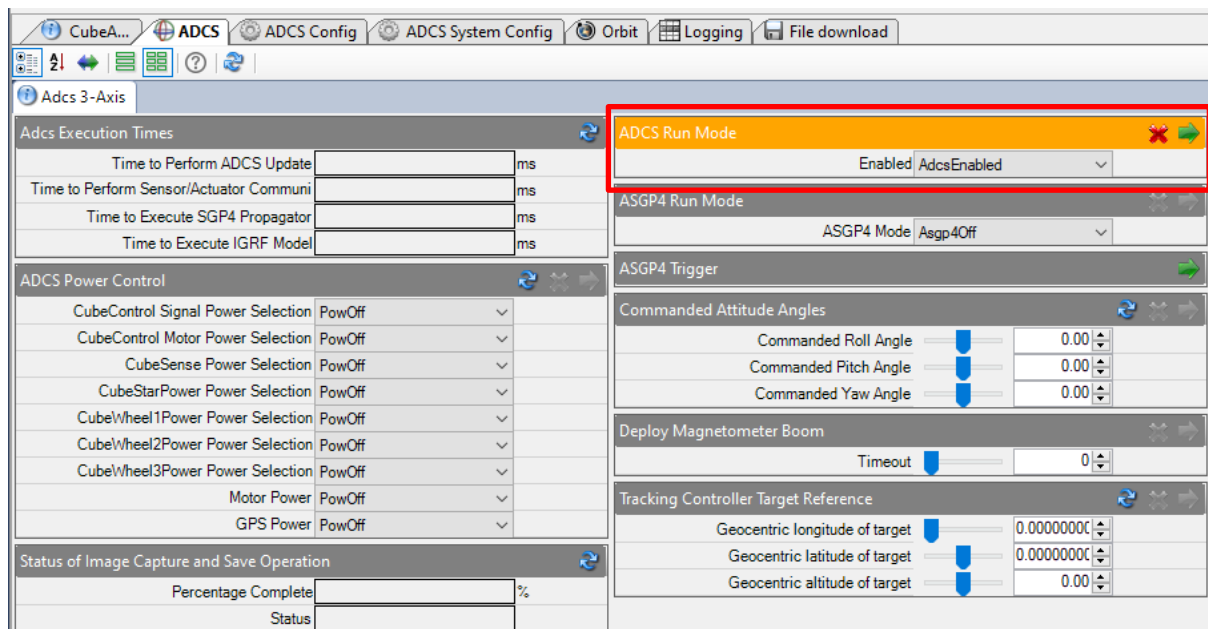

Figure 27 – Enabling ADCS Run Mode
3. In the CubeSupport application, enable the ADCS run mode by navigating to the *ADCS* → *Adcs 3-Axis* → *ADCS Run Mode* and selecting *AdcsEnabled*, as shown in Figure 27.